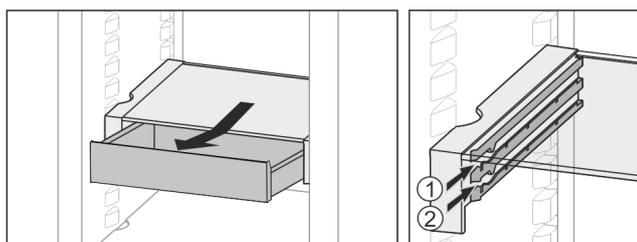

Fig. 21
- ▶ Slide back at the height you want Fig. 21 (1) or Fig. 21 (2).